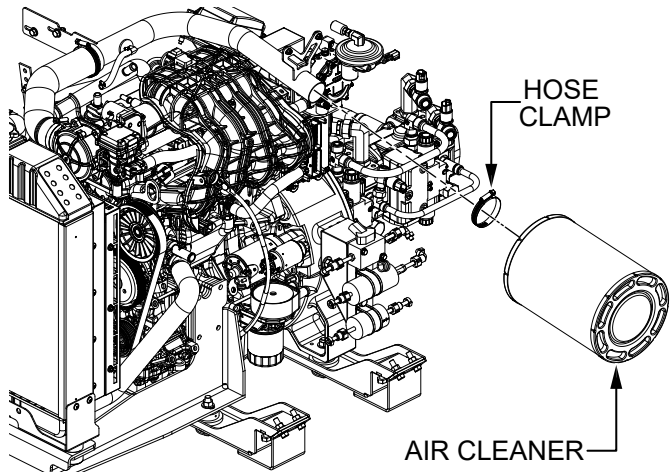

Figure 54. Air Cleaner Removal
4. Remove and set aside the hose clamp securing the air cleaner to the filter hose (Figure 54).